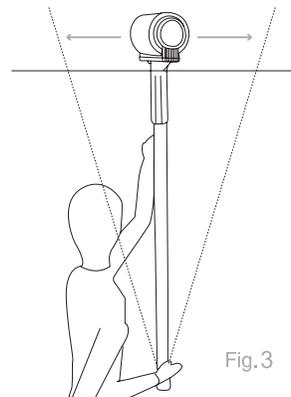

Fig. 3
4. When using a pole, always ensure you are directly under the weight of the Roller (Fig. 3)